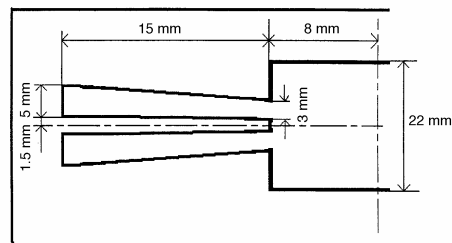

Figure 3
2.3.1 A table should be suitable for each leadframe type. Example of the table, for a typical 40 pins DIP leadframe, is shown in Figure 3.